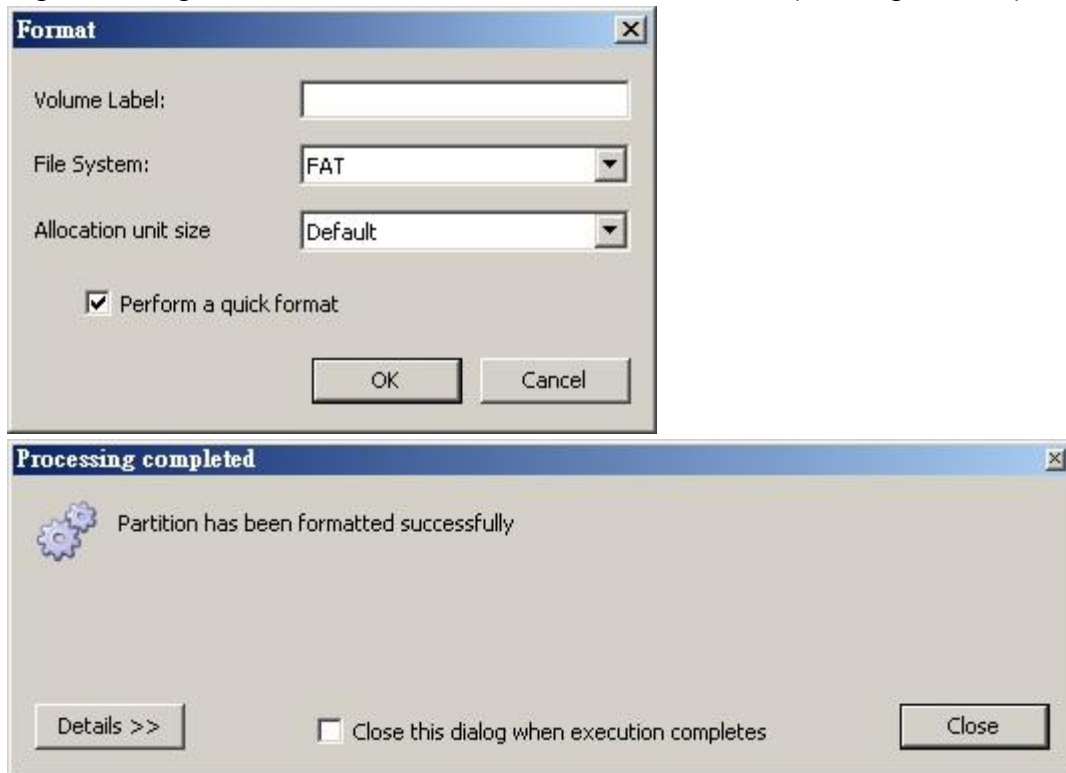

Figure 106
- Right click again and choose format, Click OK, finished (see Figure 106)